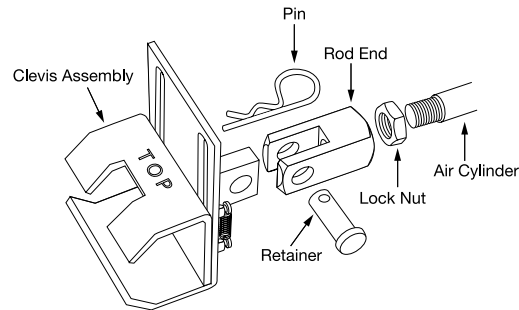

FIGURE 2
2. Attach the lock nut and clevis assembly to the air cylinder (Figure 2).